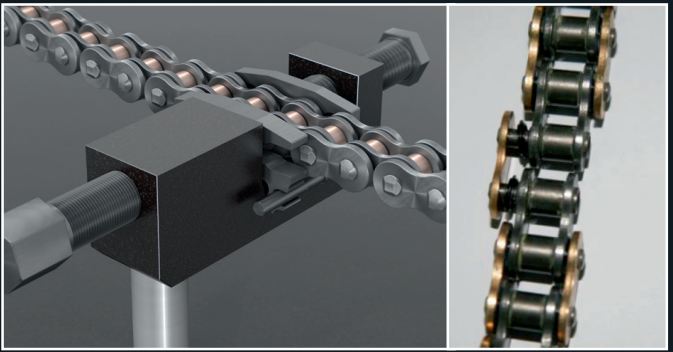

Fig. 5
- Slide the tool using the positioning unit and tighten the pressure screw by hand, such that the chain (including the positioning unit) is clamped in the tool. Ensure once again that the bolts are flush with the holes, then slide the outer plate on by turning the pressure screw. As regards its width, the positioning unit stretches not only beyond the chain lock, but also beyond the two neighbouring links. If, when sliding on the outer plate, the neighbouring plate and the positioning unit come into contact with one another, the outer plate is in the correct position and the sliding-on process is complete. This can be determined with the naked eye. Under no circumstances should you turn the screw further! (Fig.5)